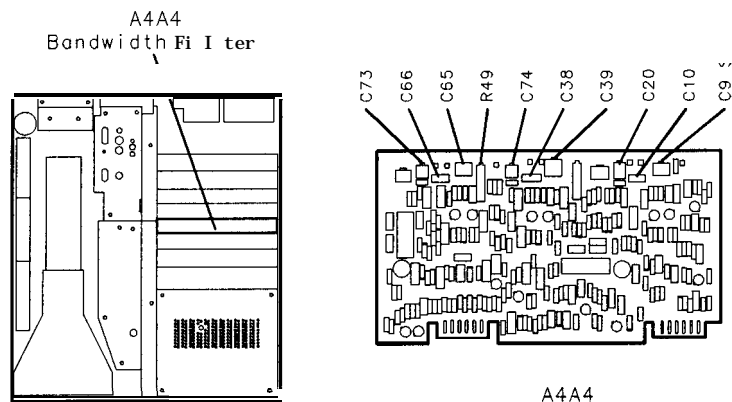

Figure 3-42.
17. Adjust **A4A4C20** CTR to center signal on center graticule line. Adjust **A4A4C9** SYM for best symmetry of signal. See Figure 3-42 for location of adjustments. If unable to adjust **SYM** for satisfactory signal symmetry, increase or decrease value of **A4A4C10**. Refer to Table 3-3 for range of values.
19. Adjust **A4A4C74** CTR to center signal on center graticule line. Adjust **A4A4C39** SYM for best symmetry of signal. See Figure 3-42 for location of adjustments. If unable to adjust **A4A4C39** SYM for satisfactory signal symmetry, increase or decrease value of **A4A4C38**. Refer to Table 3-3 for range of values.
21. Adjust **A4A4C73** CTR to center signal on center graticule line. Adjust **A4A4C65** SYM for best symmetry of signal. See Figure 3-42 for location of adjustments. If unable to adjust **A4A4C65** SYM
25. Adjust A4A4R49 XTAL to align markers on display. MARKER A level should indicate 1.00 X. See Figure 3-42 for location of adjustment.